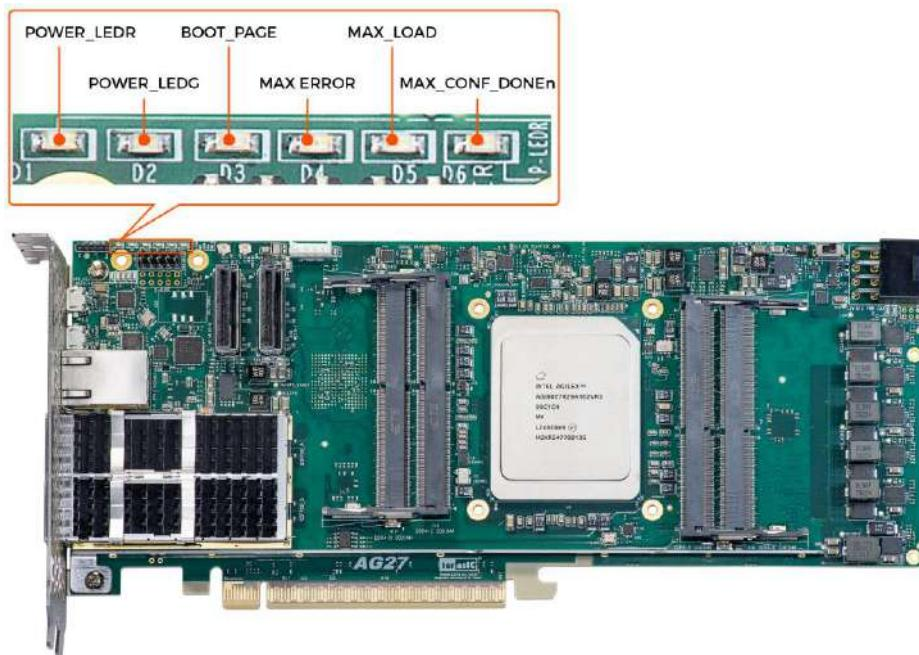

Figure 3-4 Position of the Configuration status LED
5. When the configuration is completed, the green Configure Done LED will light. If there is an error, the red Configure Error LED will light (See **Figure 3-4**).